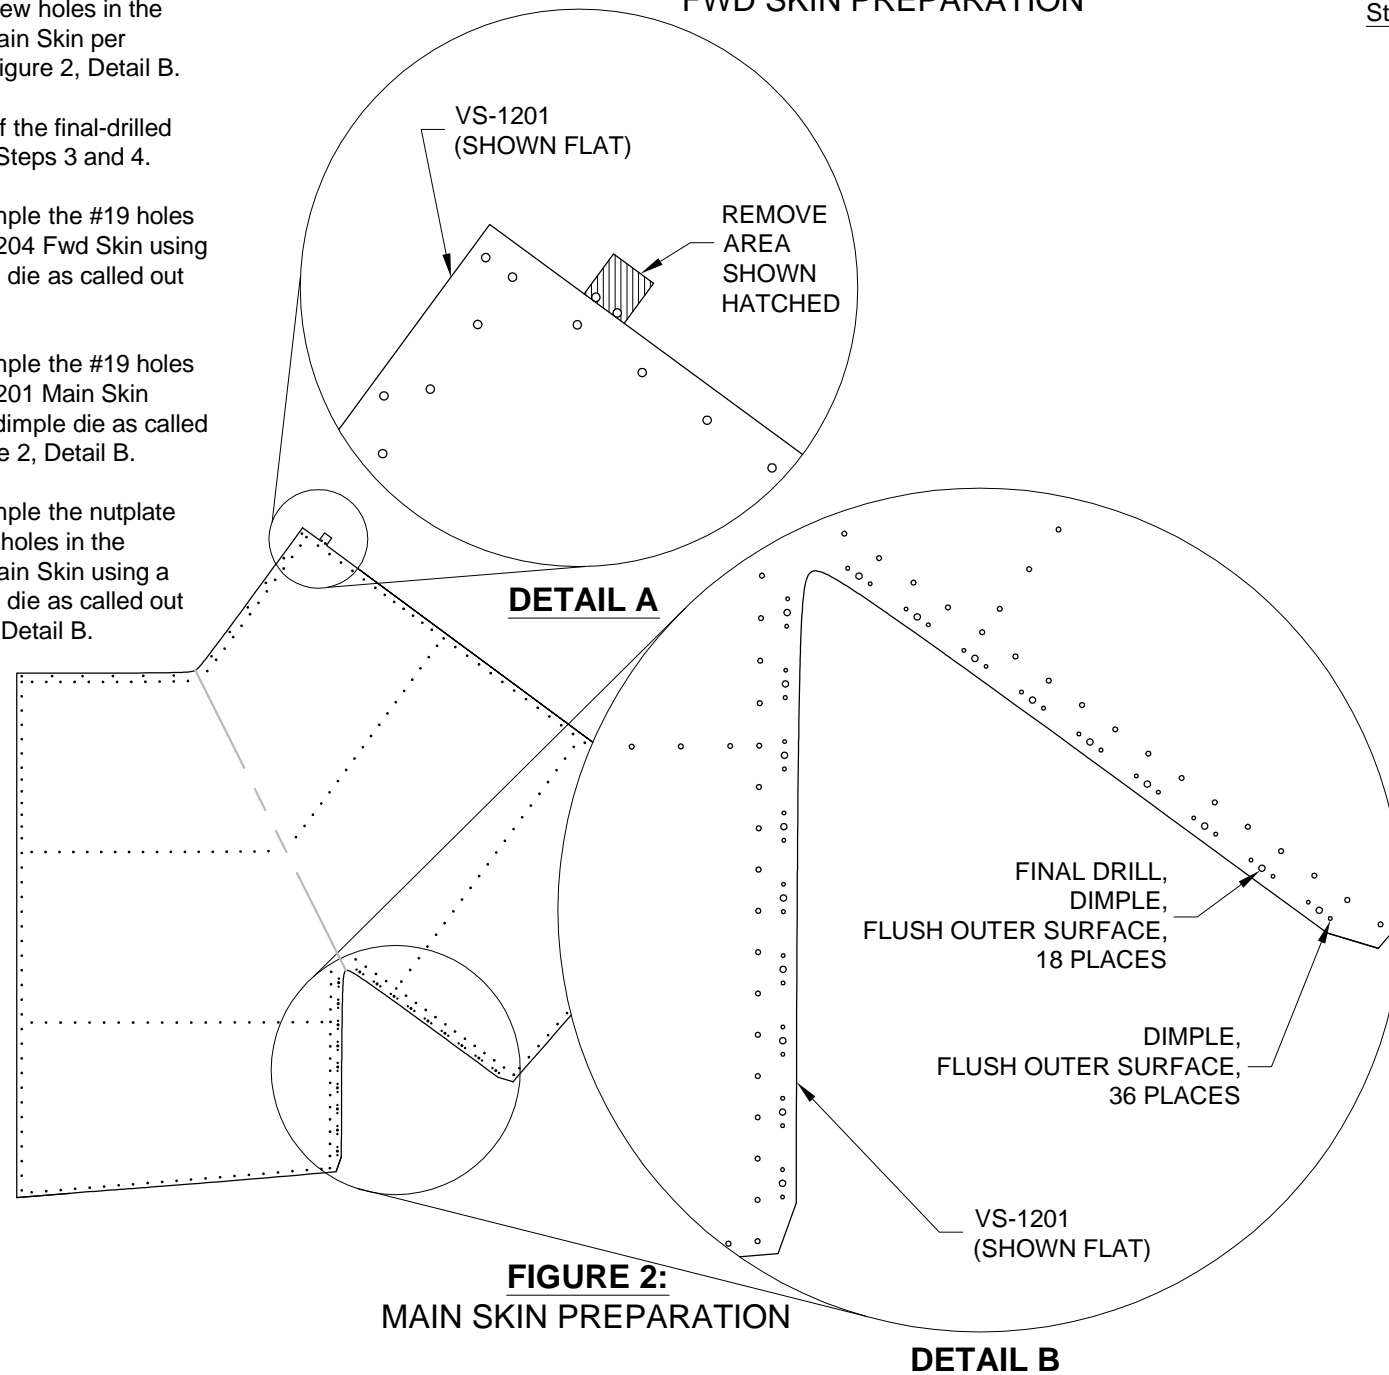

FIGURE 2:
Step 2: Remove the material from the VS-1201 Main Skin, called out in Figure 2, Detail A.
Step 4: Final-drill #19, the nutplate screw holes in the VS-1201 Main Skin per call-out in Figure 2, Detail B.
Step 6: Dimple the #19 holes in the VS-1201 Main Skin using a #8 dimple die as called out in Figure 2, Detail B.
Step 7: Dimple the nutplate attach rivet holes in the VS-1201 Main Skin using a 3/32 dimple die as called out in Figure 2, Detail B.